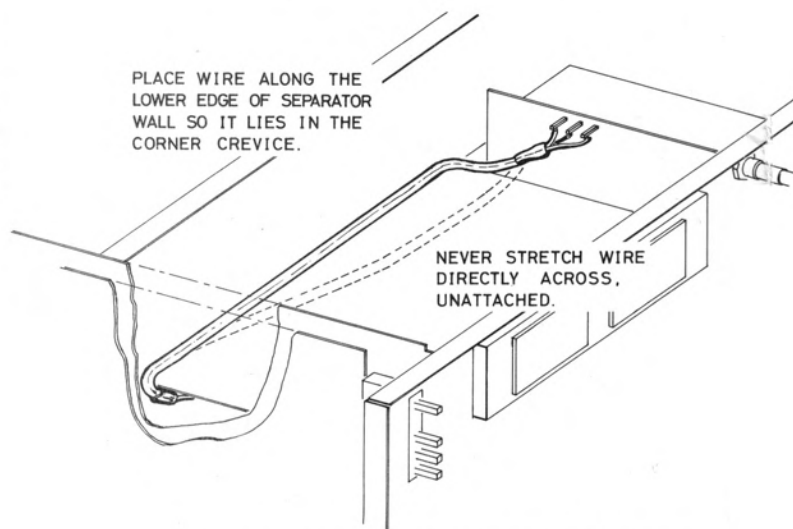

Fig. 9 WIRING DIAGRAM OF VOLUME CONTROL CIRCUIT
- Once volume control PCB has been removed, shield wire running from Pin 1 and Pin 2 of this PCB should be wired along the lower edge of separator wall in crevice as in Fig. 9. Never stretch wire directly across, unattached, as indicated by broken line in the figure.